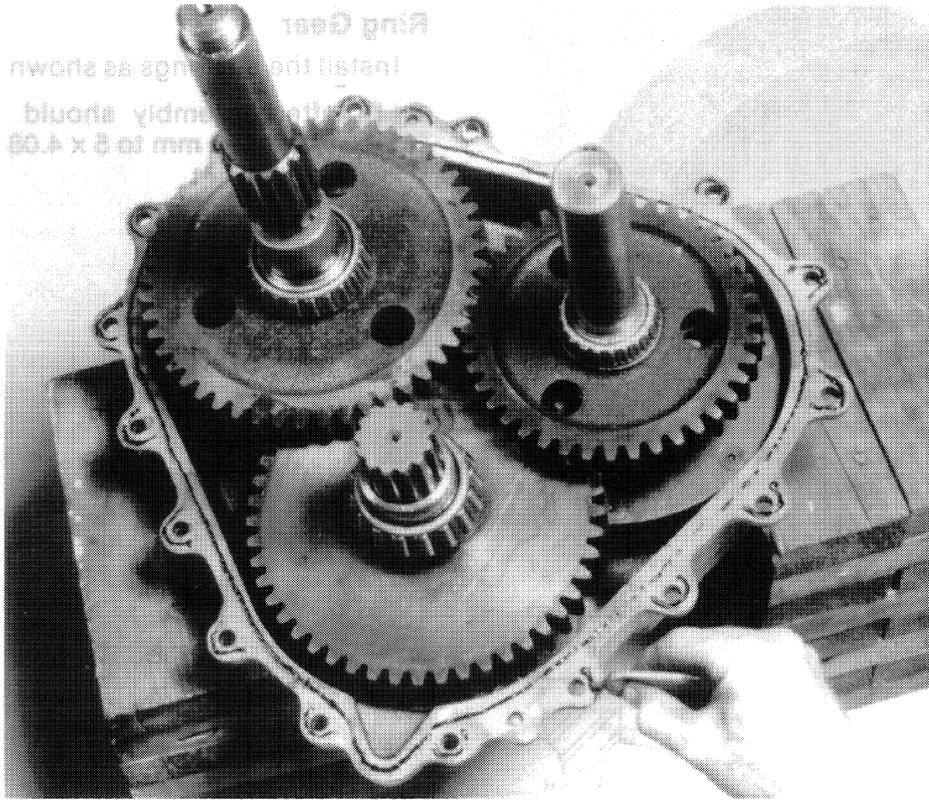

FIGURE 2-25
### Gearcase Assembly (Figure 2-25)
2. Put gasket replacer on the gearbox housing flange. A continuous 1/16" (2 mm) bead around the box and a bead at each mounting bolt. See Figure 2-25. **NOTE: One full tube will do one gearbox.**